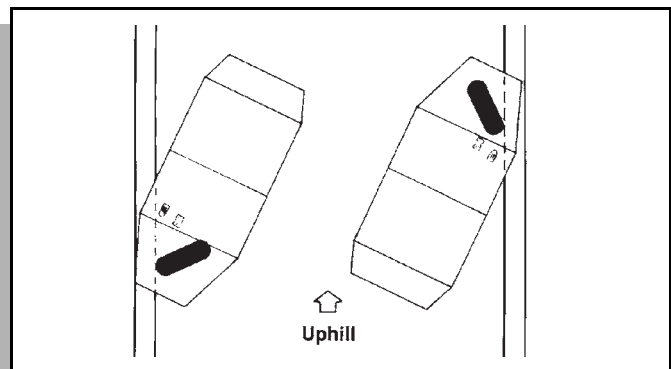

Fig. 14 Parking The Vehicle
**NOTE** When parking the vehicle on an incline, the front wheel should be curbed whenever possible. (Ref Fig. 14 on page 10).